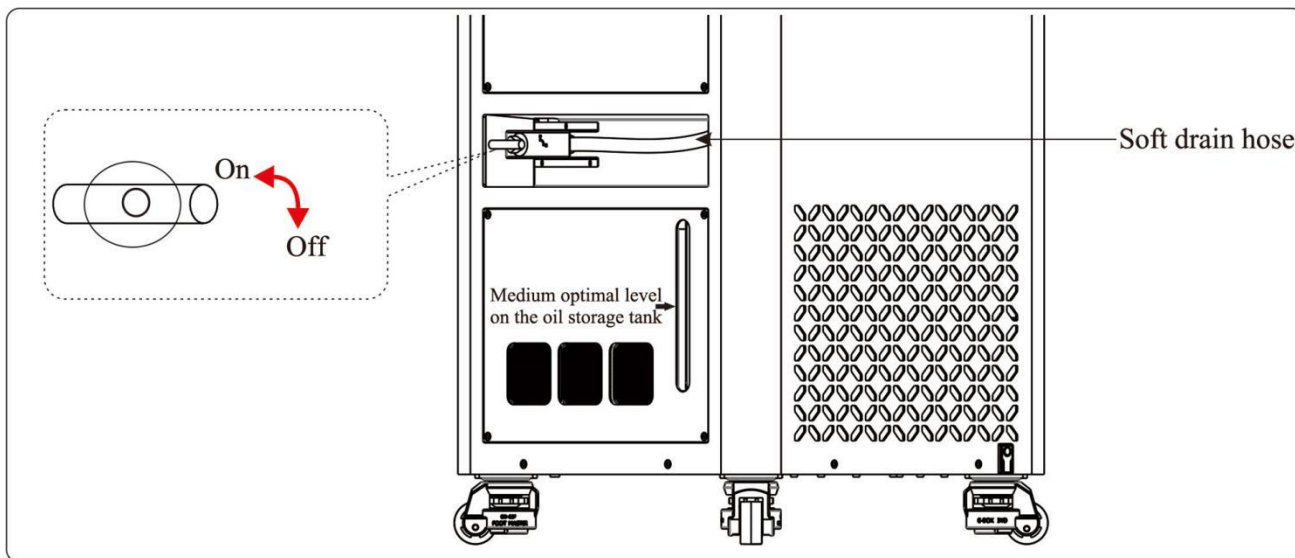

Figure 2.3 Drain valve and oil tank location
Switch off the drain valve, remove the flange and add the medium into the working chamber. After filling, the medium will automatically overflow into the oil storage tank. Add until the liquid level in the oil storage tank reaches the marked optimal level. The optimal position is shown in Figure 2.3.
- 2) Switch on the drain valve to release the working chamber medium, and click "Refill" on the screen to pump the oil tank medium into the working chamber and release it together. The position of the drain valve and hose is shown in Figure 2.3.
- 2) The working chamber medium can be released by switching on the drain valve. The position of the cooling bath drain valve is the same as that of the oil bath, as shown in Figure 2.3.